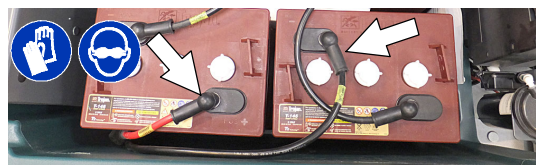

FIG. 77
1. Disconnect the battery cable connection at machine (Figure 77).